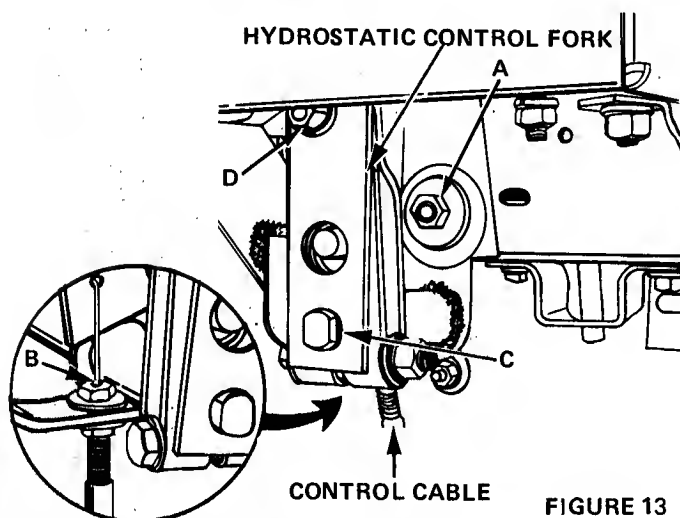

FIGURE 13
2. Oil control cable B, Figure 13.
3. Periodically oil hydrostatic control pivot shaft at Point C, Figure 13.